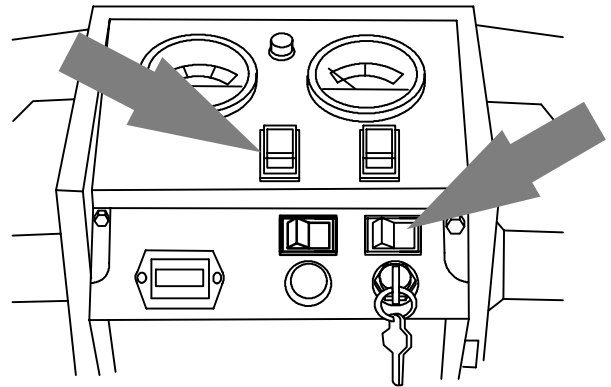

FIG. 39
6. Turn machine power and wand pump switch on (Figure 39).